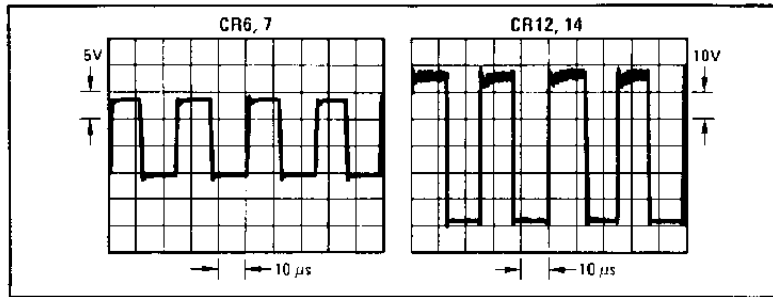

Figure 8-904. Transformer (T3) Secondary Waveforms
- Compare the waveforms at the outputs of the rectifiers on the secondary of transformer T3 to those shown in Figure 8-904 below.